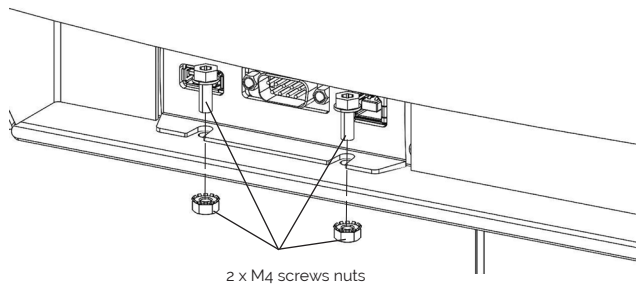

FIGURE 1
3. Remove two M4 screws and nuts from outside, see fig: 1